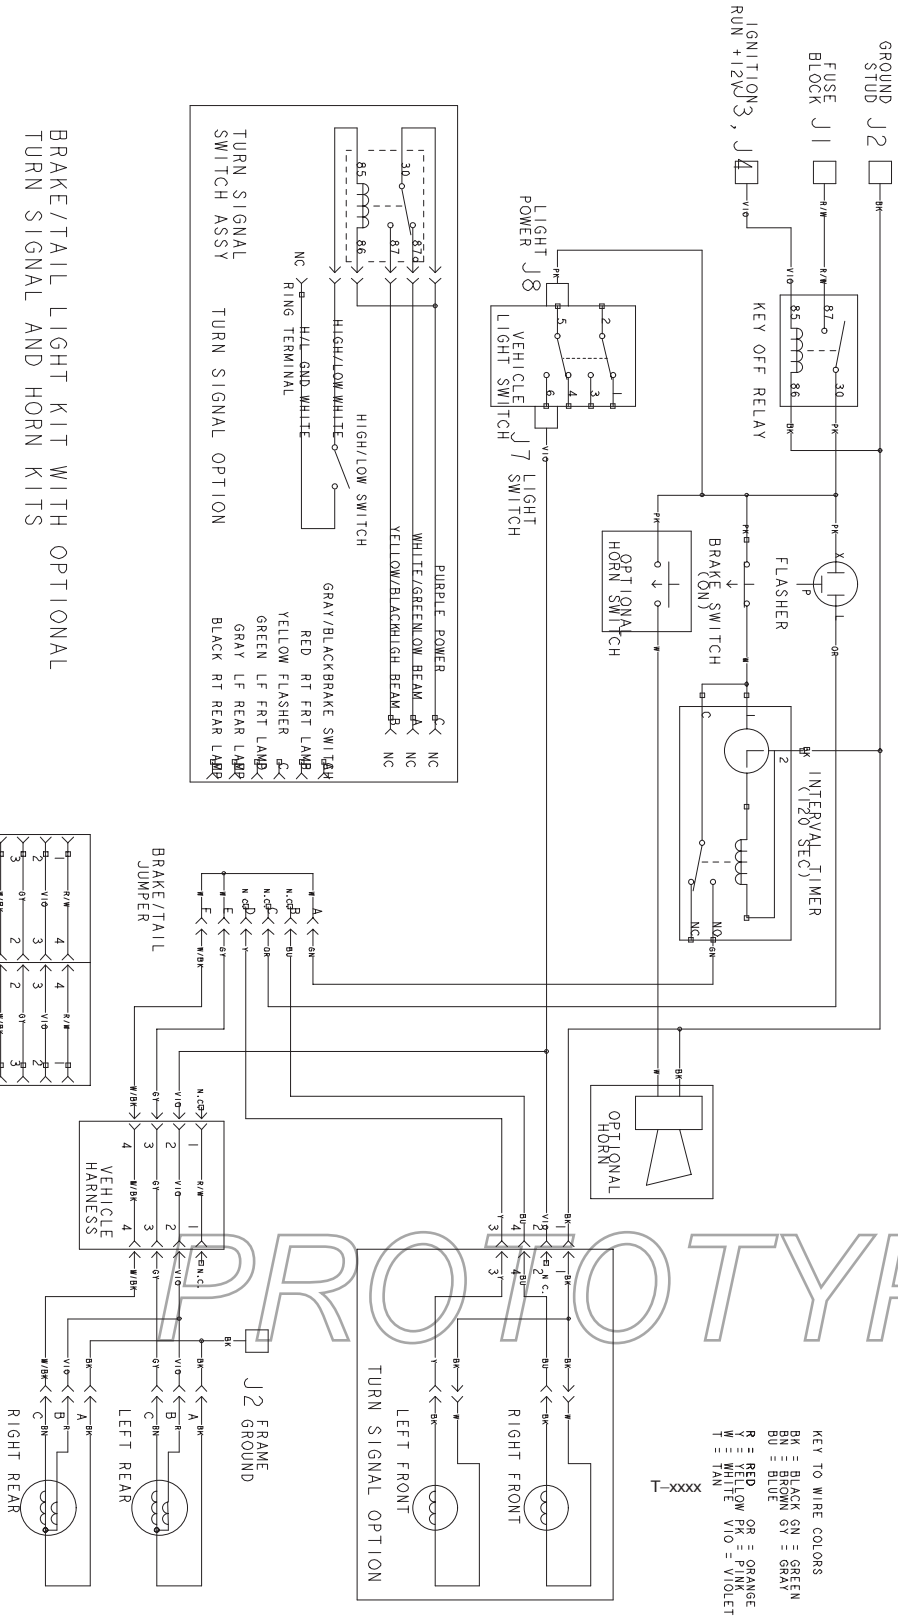

Figure 24
3. Drill 2 holes (13/64 in. dia.) on each side of the box in the location shown in Figure 24, using the reflector as a template to mark the hole locations.
4. Install the rear reflectors, using 4 screws (#10) (Fig. 24).